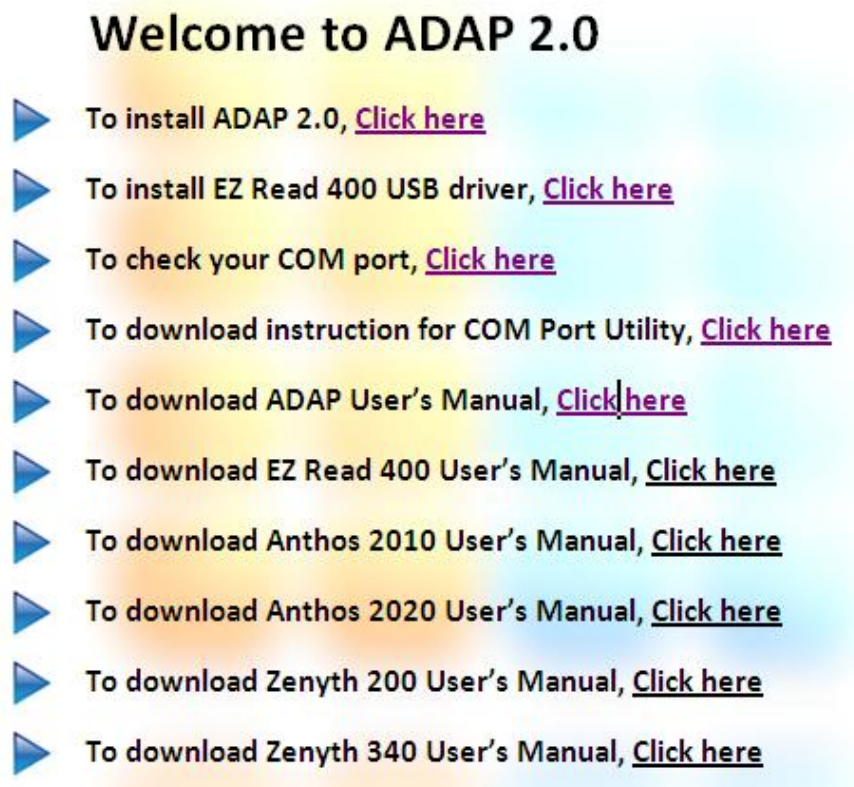

Figure 1-2 Welcome to ADAP 2.0 Start Up Page
2. Insert the ADAP software installation CD into the CD-ROM drive. After a few seconds, the ADAP set up page will open automatically in your default internet browser (Figure 1-2 ADAP 2.0 Automatic Start Up Page)